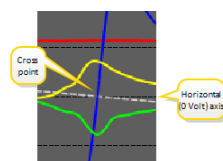

Figure 3-20 Dotted and blue line cross near horizontal axis
24. Move the writing module until both the gray dotted **and** the blue line cross the horizontal (0 Volt) axis at the same point, see **Figure 3-20 below**.